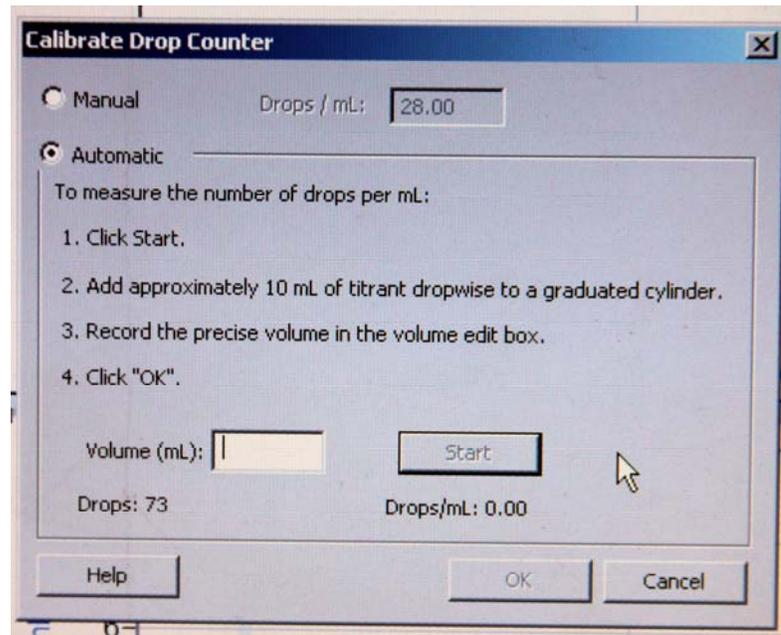

Figure 1. Drop counter setup
- c. Assemble the apparatus according to Figure 1. But do not put the pH sensor in the drop counter.
- a. Place a magnetic stirrer on or at the base of the ring stand. Place a 100 mL beaker on the center of the stirrer. (See Figure 1)